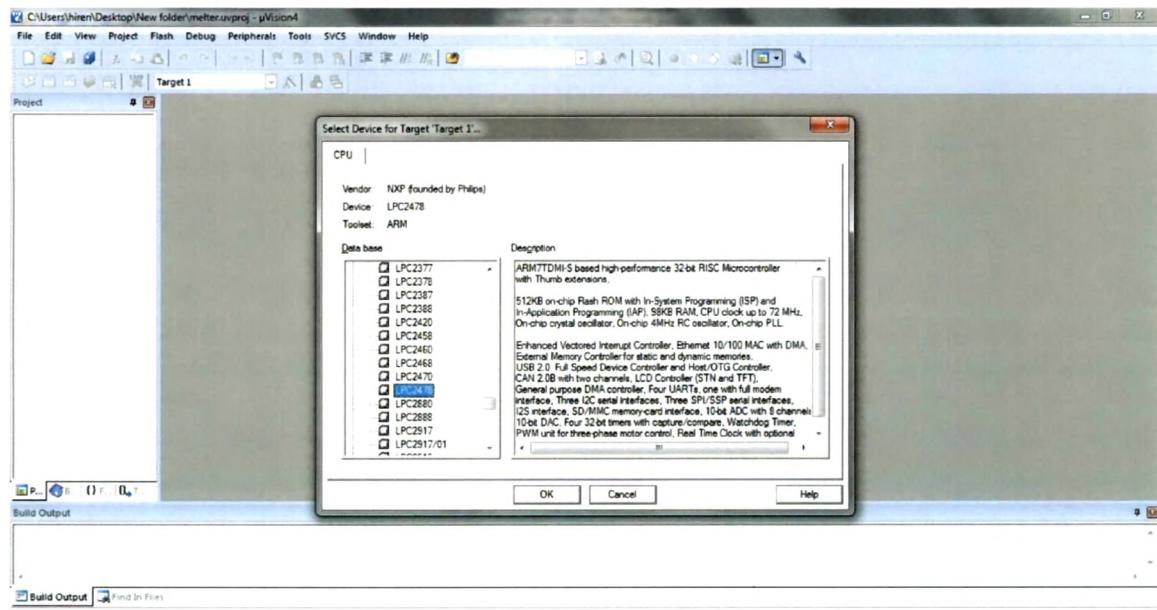

Figure A-3 New Project wizard
3. Provide name and location for the project as shown in Figure A-3.